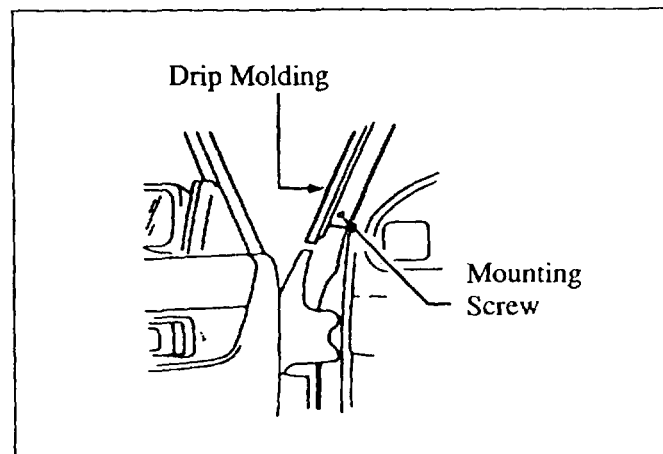

Figure 10: "A" pillar area
1. Open the front door and remove the mounting screw from the lower side of the drip molding. **Figure 10.**